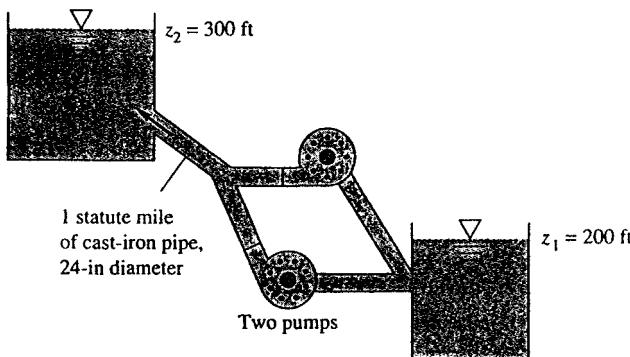

Fig. P11.75
**11.75** Two 35-inch pumps from Fig. 11.7b are installed in parallel for the system of Fig. P11.75. Neglect minor losses. For water at 20°C, estimate the flow rate and power required if (a) both pumps are running; and (b) one pump is shut off and isolated.